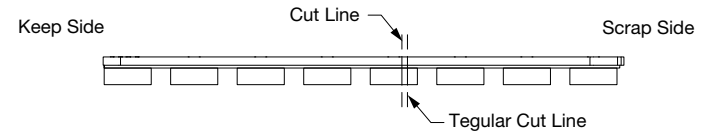

Fig 71
- If half or more of the slat remains, keep it. Backer will extend 1/4" beyond the slats following the steps in 3-b to form the tegular edge (**Fig 71**).